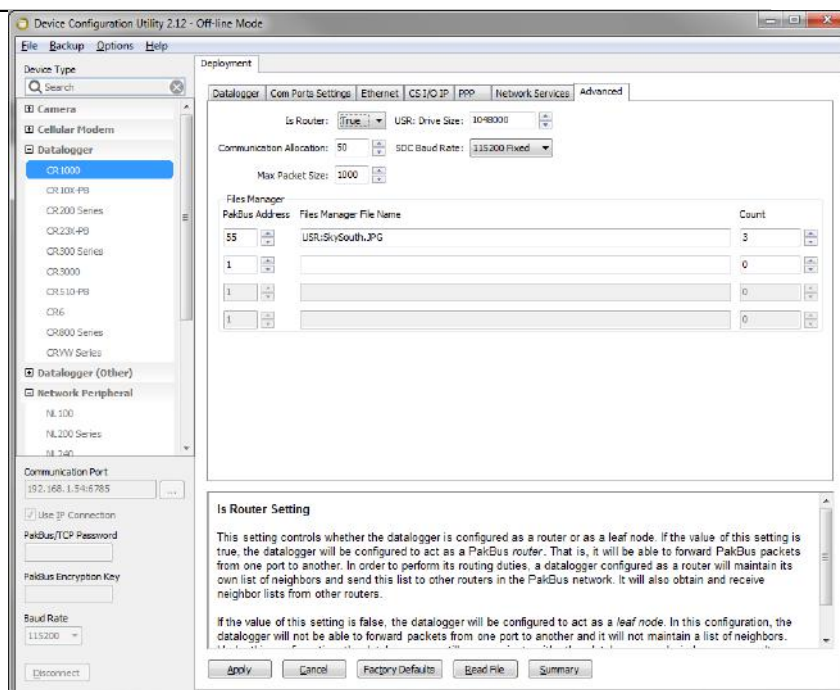

Figure 18.1 Datalogger Files Manager
- DDD – destination drive on the CR1000/CR3000 datalogger. USR for the user drive. In figure 18.1 this value is *USR*. CRD for the compact flash memory card.
- NAME – any name string that will be used to name the files. In Figure 18.1 this value is *SkySouth*. The file name will automatically produce an incrementing number. For example, the first file will be named *SkySouth1.jpg*. Entering a zero for this parameter will disable the automatic numbering and produce a fixed file name. In this example, the *Files Manager File Name* would be *USR:0.JPG*.
- EXT – the file extension of the incoming file must match. In the case of the camera, this must always be either jpg or avi. In Figure 18.1 this value is *JPG*.